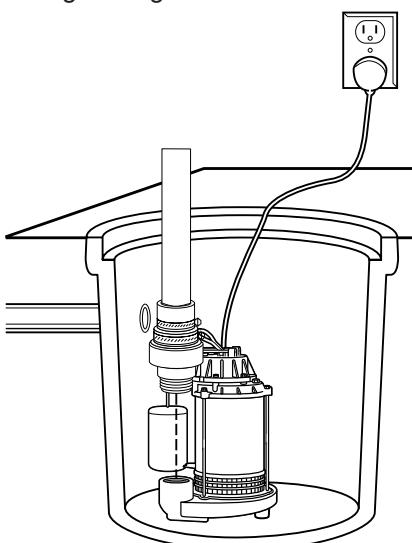

Figure 2 – Submersible Pump Installation
- Construct a sump pit from concrete, steel, or plastic that is 24" deep and at least 11" in diameter (Figure 2 next page). If the sump already exists, make sure it is the proper size.